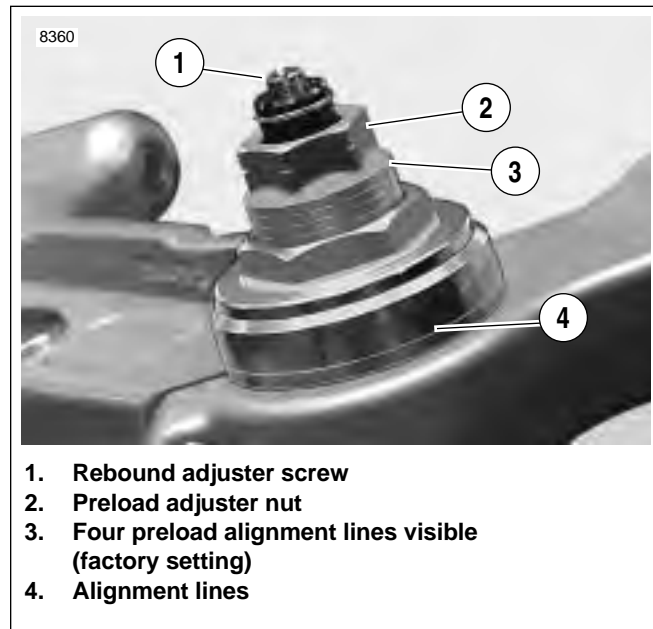

Figure 2-75. Front Fork Preload And Rebound Adjuster
4. See Figure 2-75. Position fork with alignment lines (4) visible and reflector facing to the side and tighten the lower fork clamp.
10. See Figure 2-75. Position both forks with same number alignment lines (4) visible and reflectors facing to the sides. Do not tighten.